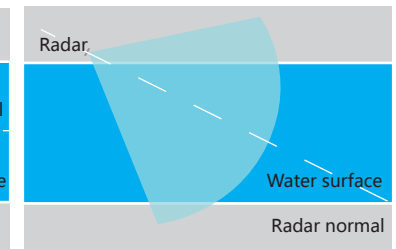

Fig.2-10
- ⑥ If the radar installation environment is for water object detection, radar install at shore to monitoring ships on the surface of water, like figure 2-10.